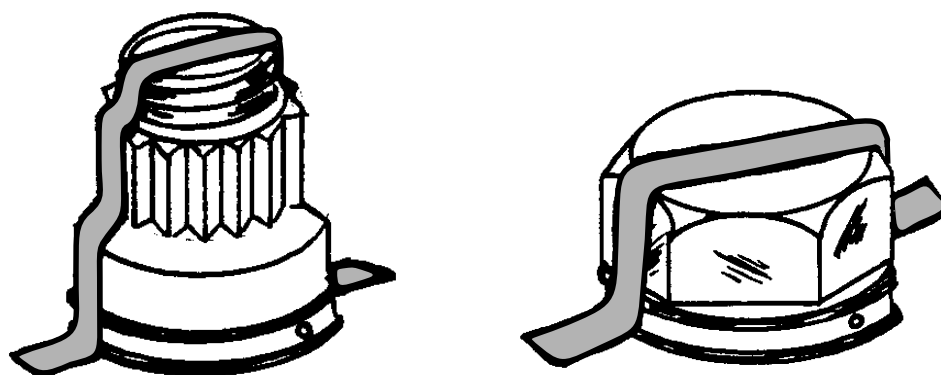

Figure 6 - Torque Stripe Marking of PLI Washer/Bolt Assemblies
- Step 4. Identify the torqued PLI washer assembly with a torque stripe mark. Apply the torque stripe witness mark using white tamper proof sealant (ref. para. 4.1.3) in a 1/8" wide stripe extending across the fastener and onto the adjacent structure approximately as shown in Figure 6.